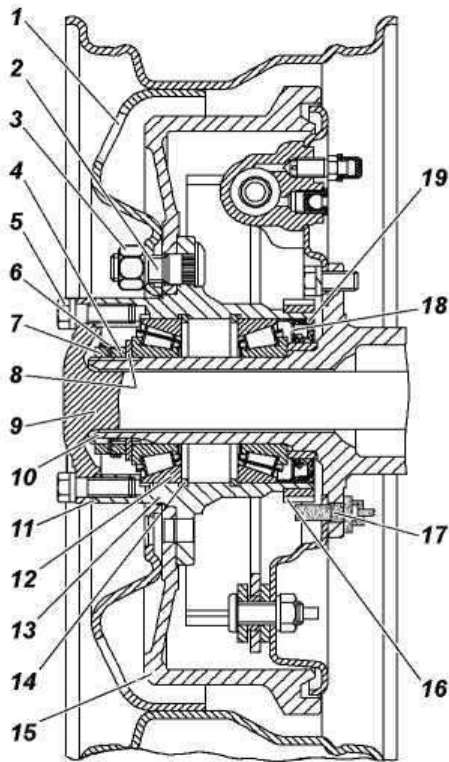

Fig. 9.25 Rear wheel hub:
2. Remove the axle shaft 9 (Fig. 9.25) of the rear axle or the hub flange of the front axle.